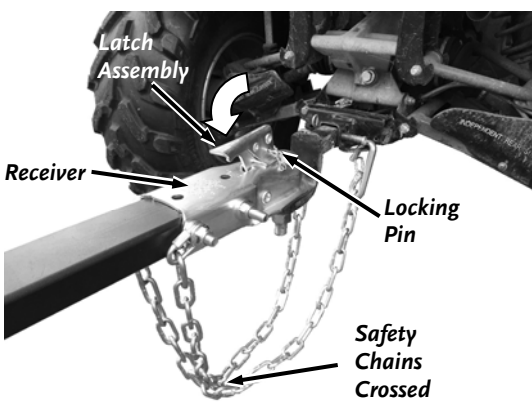

Figure 18
2. Close the Latch Assembly on the Tow Hitch Assembly to lock it onto the Tow Ball (**Figure 18**). Attach the towing Safety Chains to the tow vehicle ensuring there is enough slack for turning.